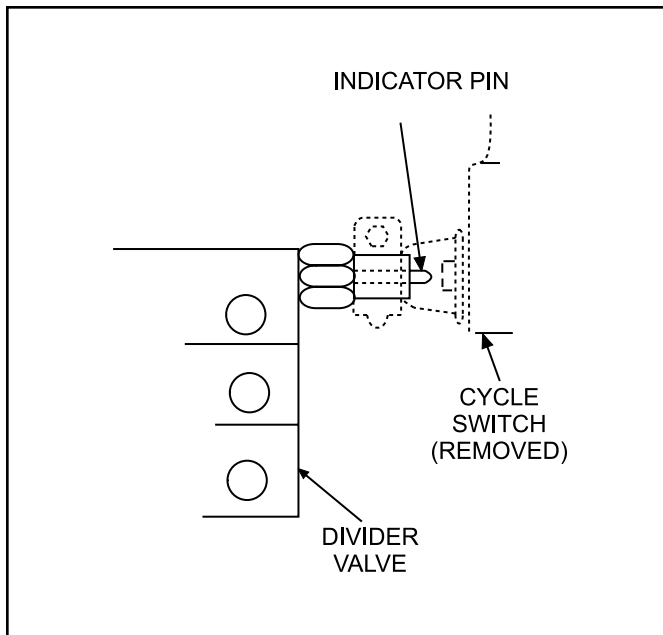

Figure 3-5. Typical Indicator Pin and Cycle Switch
- If the system is equipped with optional cycle switch, remove cycle switch and manually cycle the pump until the indicator pin is extended. Manually push indicator pin. Indicator pin should not respond to hand pressure. If pin moves inward or feels spongy, system is not fully bled. Figure 3-5 shows a typical indicator pin and cycle switch installation. See Section 5 for available cycle switch part numbers.